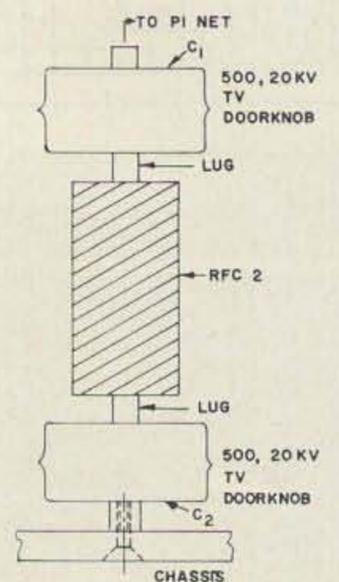

FIG. 3
5. The plate choke is wound on a half inch ceramic insulator two inches long with the TV doorknob capacitors threaded into the ends of the insulator and then bolted to the chassis. (see Fig. 3) The plate cap is of the heat radiating type and the straps from the cap to the choke are either 1/4" braid or flexible strap.